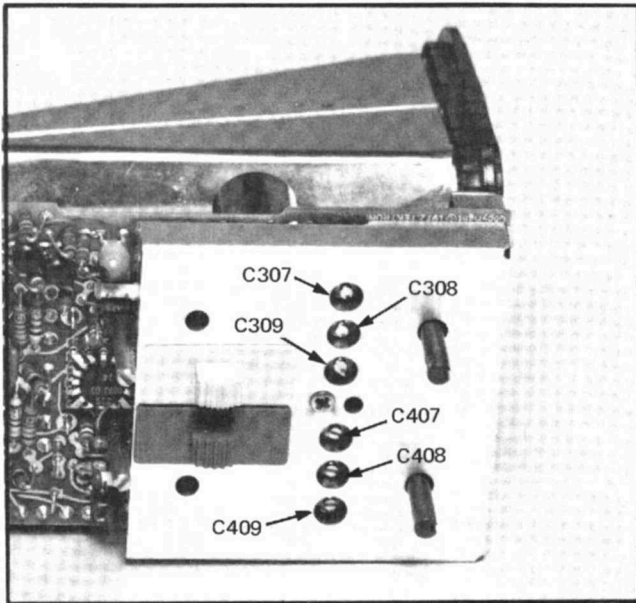

Fig. 4-8. Location of attenuator compensation capacitors.
f. ADJUST—C407 (see Fig. 4-8) with a low-capacitance screwdriver, for no more than +0.2 division, -0.1 division, or a total of 0.2 division of aberration.
i. ADJUST—C408 (see Fig. 4-8) for no more than +0.2 division, -0.1 division, or a total of 0.2 division of aberration.
l. ADJUST—C409 (see Fig. 4-8) for no more than +0.2 division, -0.1 division, or a total of 0.2 division of aberration.
f. ADJUST—C307 (see Fig. 4-8) for no more than +0.2 division, -0.1 division, or a total of 0.2 division of aberration.
i. ADJUST—C308 (see Fig. 4-8) for no more than +0.2 division, -0.1 division, or a total of 0.2 division of aberration.
l. ADJUST—C309 (see Fig. 4-8) for no more than +0.2 division, -0.1 division, or a total of 0.2 division of aberration.